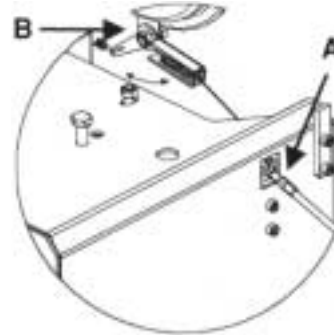

FIG 31
3. Connect the cable to the clutch control arm (A).
4. Attach the mounting for the drive disc (B), so that the clutch does not rotate.
5. Tighten the belt with the belt tension device (FIG. 31 A). A correctly adjusted belt can be moved 0.5 cm with one finger (FIG. 31 B). If necessary, adjust the engine/motor console mounted in the lengthways slot to attain the correct belt tension.